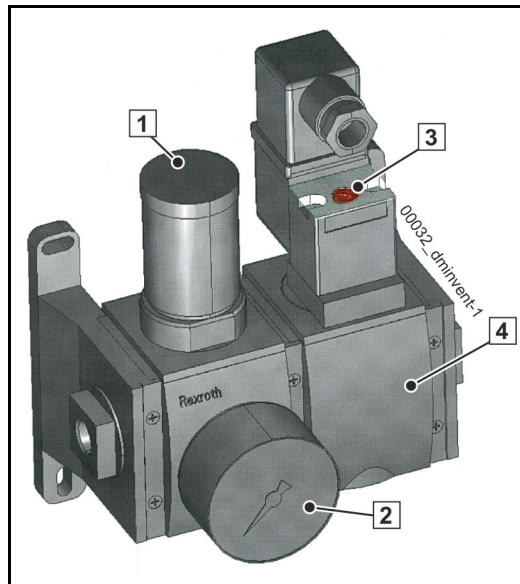

Fig. 449 Compressed air module
In the event the electrical control system fails, the solenoid valve (4) can be switched manually using an emergency control (3) (**Fig. 449**).
- Read the pressure gauge (2) (**Fig. 449**) on the pressure release valve.
- Set the pressure to 5 bar by turning the set screw (1).